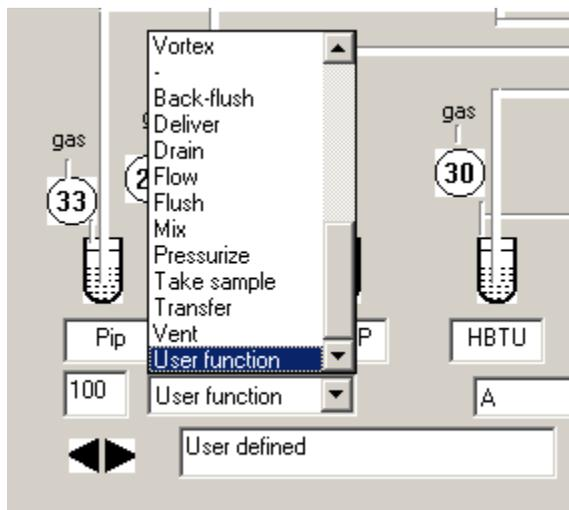

Figure 7-5 The Function List Box
2. Click the **Functions** list box to view the list of functions (Figure 7-5).
In the Functions screen, click the Functions list box to access standard functions (Figure 7-5).
1. In the Function Number box in the Functions screen, type in a function number from 100 to 109, then click **Tab**, or select **User functions** from the Functions list box (Figure 7-5).